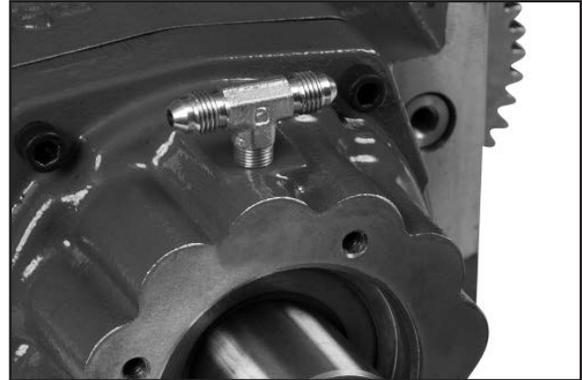

Figure 15
2. If unit has a Wet Spline output option, install tee fitting (379627) into output bearing cap (**Fig. 15**).